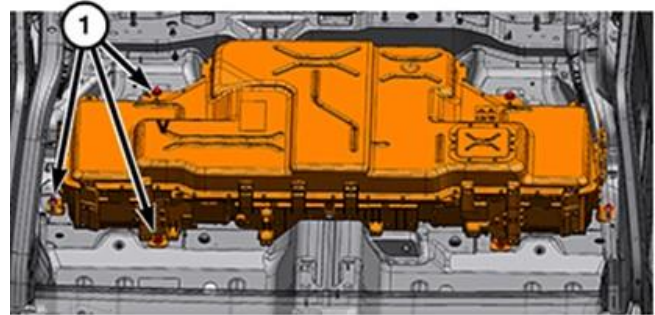

Figure 32 – HV Battery Bolts
- 56. Remove the bolts (1) securing the HV battery to the vehicle (Figure 32).
65. Install the HV battery pack bolts (1) and tighten to (Figure 32):